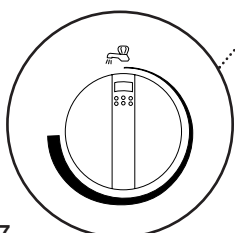

Fig. 7
- 4. Domestic Hot Water:** The temperature of the domestic hot water can be adjusted by turning the control knob clockwise to increase or anticlockwise to decrease (Fig. 7).